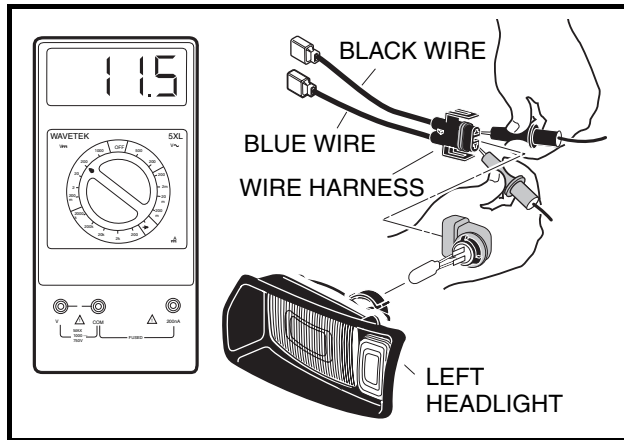

Figure 11a-31 Voltage Measurement at Headlight Socket
3. Remove the wire harness from the headlight (**Figure 11a-31, Page 11a-37**).